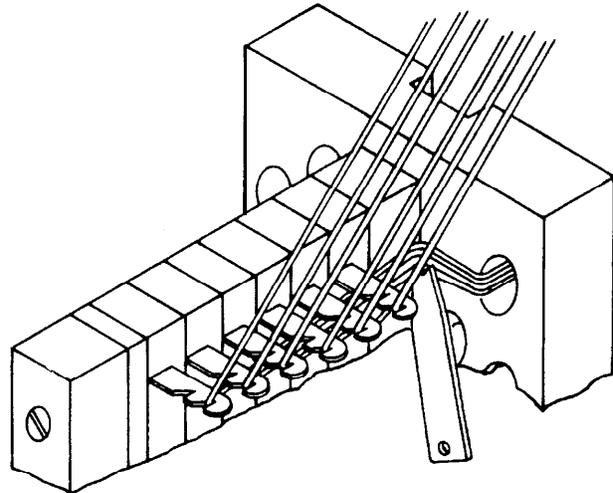
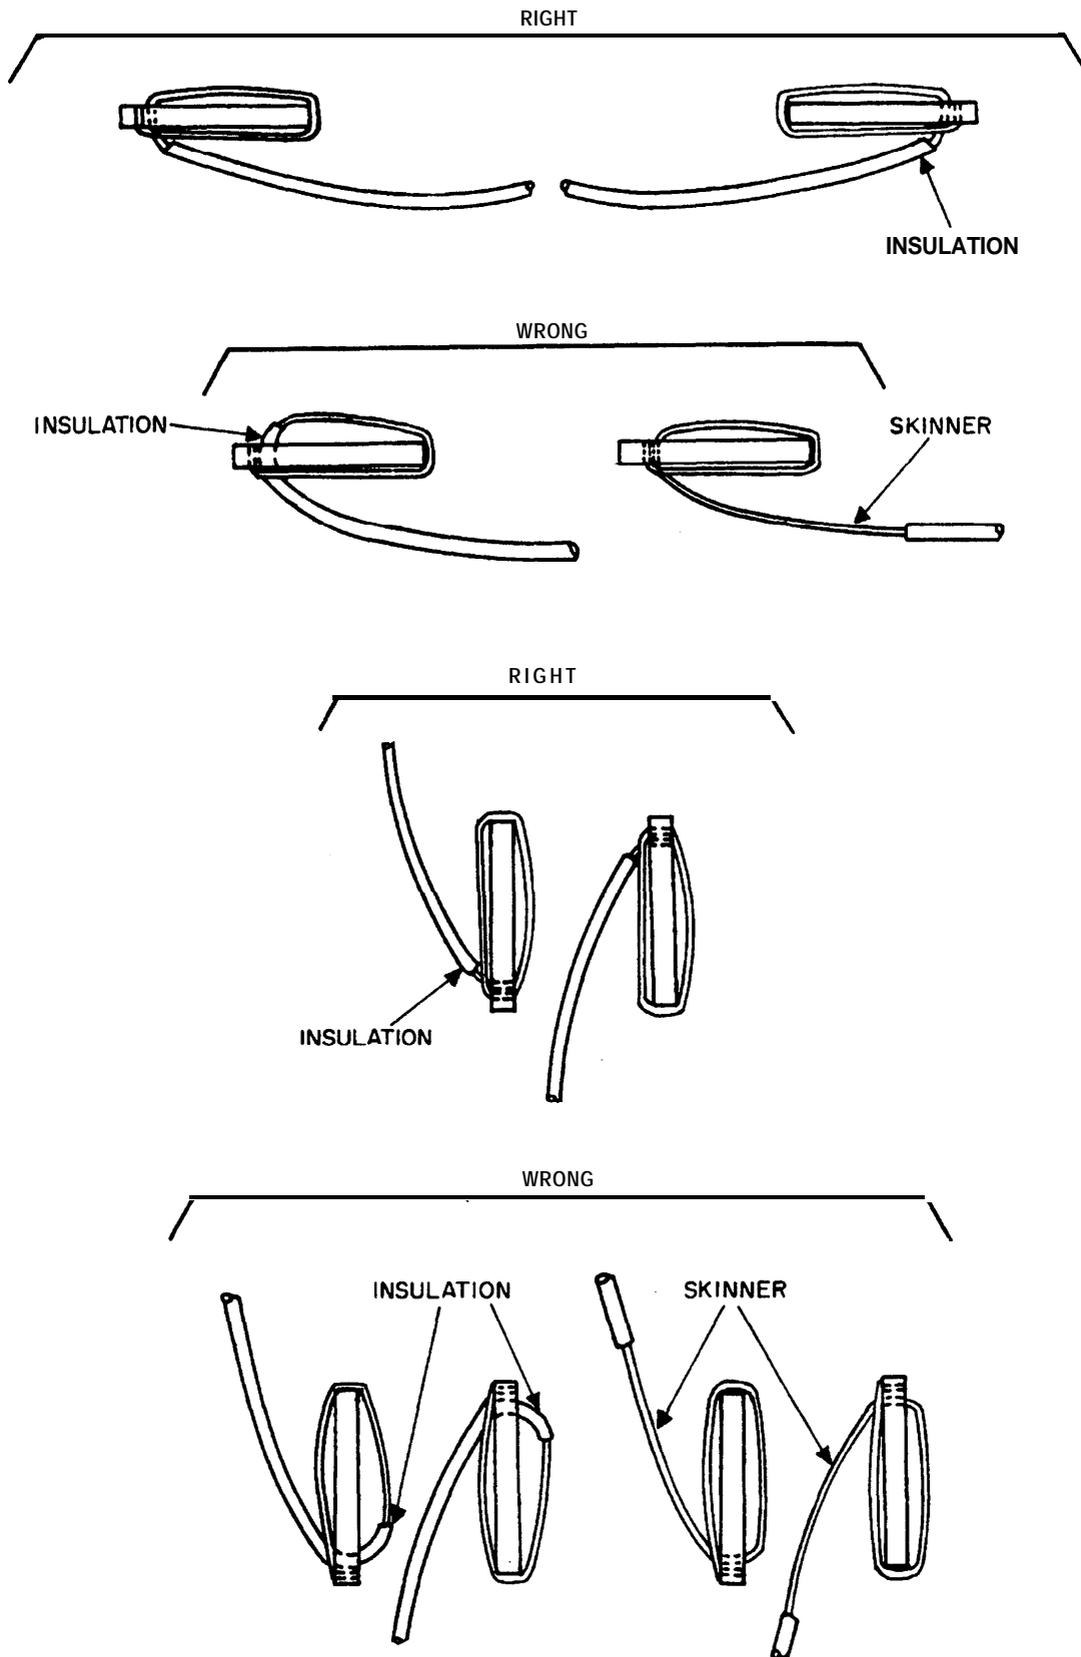

Figure 2. Using Wire Spudger for Dressing Wires and Marking Skinner Lengths for Connecting.
Figure 4. Method of Connecting Wires.
4.01 Each conductor is to be stripped of the insulating cover at the correct length to provide a firm and neat connection at its assigned terminal. The recommended method of dressing conductors while marking and connecting onto a terminal block is by the use of a wire spudger. After the conductors have been fanned through the fanning strip of the terminal block, hold the wire spudger between the fanning strip and the first row of terminals to prevent the conductors from pulling out of their proper position. Refer to Figure 2.
4.04 As shown in Figure 2, mark each conductor by bending the wire back over the pin. As shown in Figure 4, strip the insulation from the conductor so that the insulation comes up to the